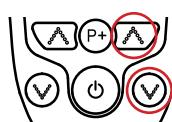

Fig 8
5. Gently increase the intensity setting by pushing the button “”. Or decrease intensity setting by pushing the button “”. (See Figure 8). The LCD will show the level selected (see Figure 9). When you reach the desired Level the icon will blink. To stop the blinking and maintain the intensity press the “” button 5 times.